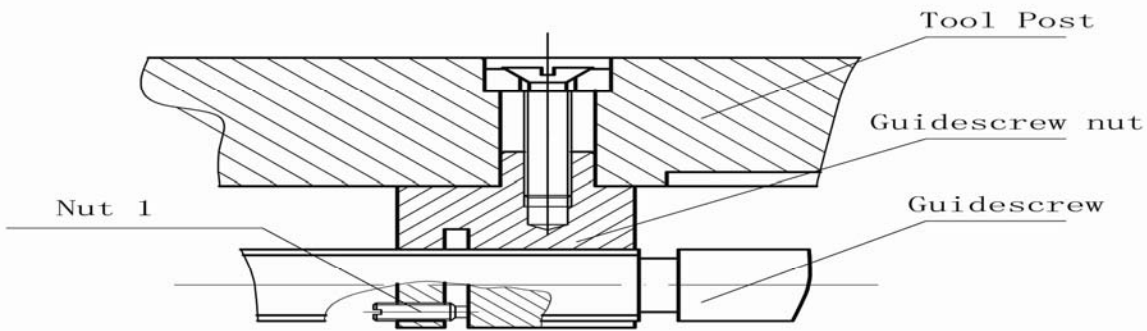

Fig 10 Adjust the gap of horizontal feeding nut
3. Gap adjustments to guide screw nut: See fig10, Turn screw 1 to eliminate the gap. The gap can't be too small or wear is intensified.